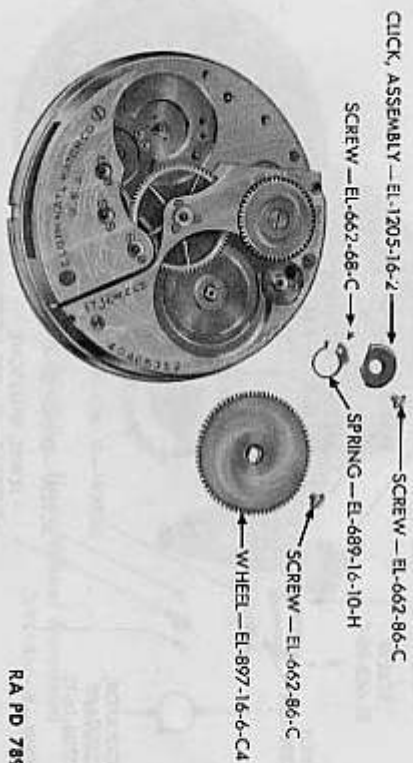

Figure 84 — Elgin Pocket Watch — Ratchet Wheel and Click Assemblies Removed
g. **Replace Click, Ratchet Wheel, and Crown Wheel** (fig. 84). Replace click spring on its stud and secure in place with screw. Replace click over click spring stud, placing stud of click in open end of click spring and secure in place with click screw. Replace crown wheel and crown wheel washer, and secure with crown wheel screw, turning it counterclockwise. Replace the ratchet wheel on the square of mainspring barrel arbor and secure in place with the ratchet wheel screw. At this point, check the freedom of the train by installing the movement within the case band and rotating the crown one turn. Observe the train to determine whether or not the wheels backlash. If the wheels backlash, the train has perfect freedom.